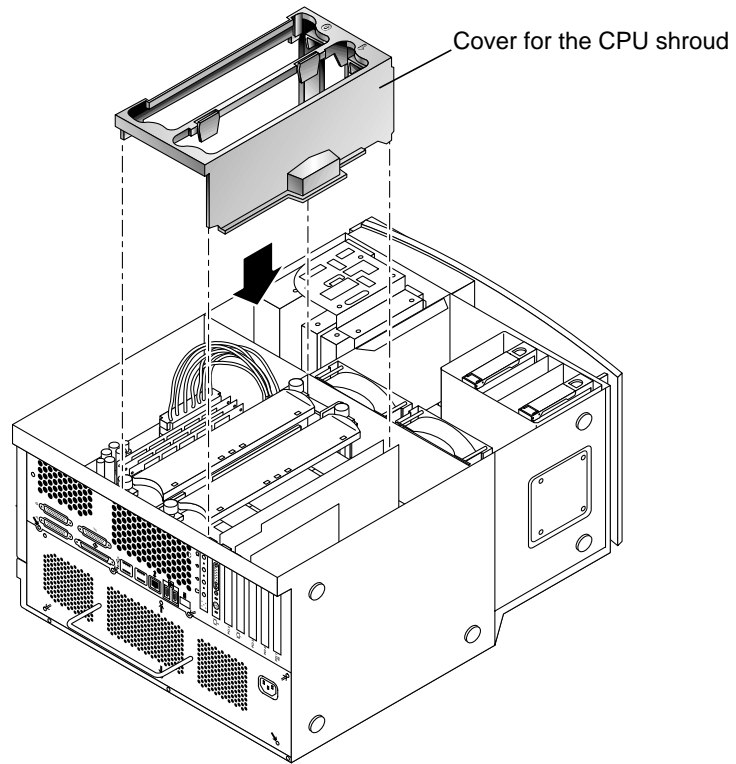

FIGURE 14 Installing the Cover for the Shroud
9. If necessary, install the cover for the shroud (see FIGURE 14).